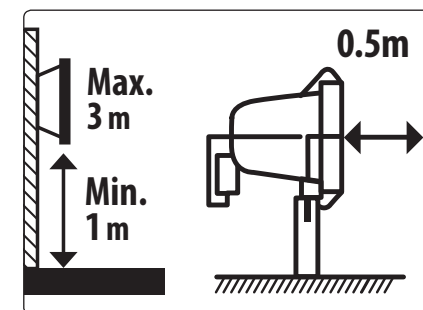
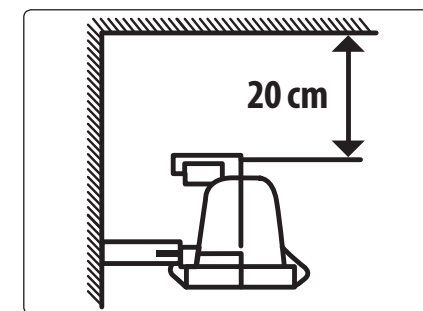

Fig. 6
Fig. 7
- Mount the floodlights and secure them in place with the supplied screws to the portable stand with carry handle, see fig. 1 and point them as required. The floodlights can be used in this way, installed on a stand and carried using the carry handle or the given stand can be installed and attached on to a telescopic tripod. Assemble the tripod according to fig. 2 and secure all its moving parts using the relevant fastening elements. The extended tripod rod can be turned 360° around its central axis as required, see fig. 2. The direct distance of the floodlights from the illuminated object should be at least 0.5 m, see fig. 6.
- If necessary, the floodlights may be mounted on a wall. Mount the floodlight at a height of 1-3 m above the ground (fig. 6). The direct distance of the floodlights from the illuminated object should be at least 0.5 m. When the floodlight is mounted in a corner then it must be at least 20 cm away from the ceiling (Fig. 7).